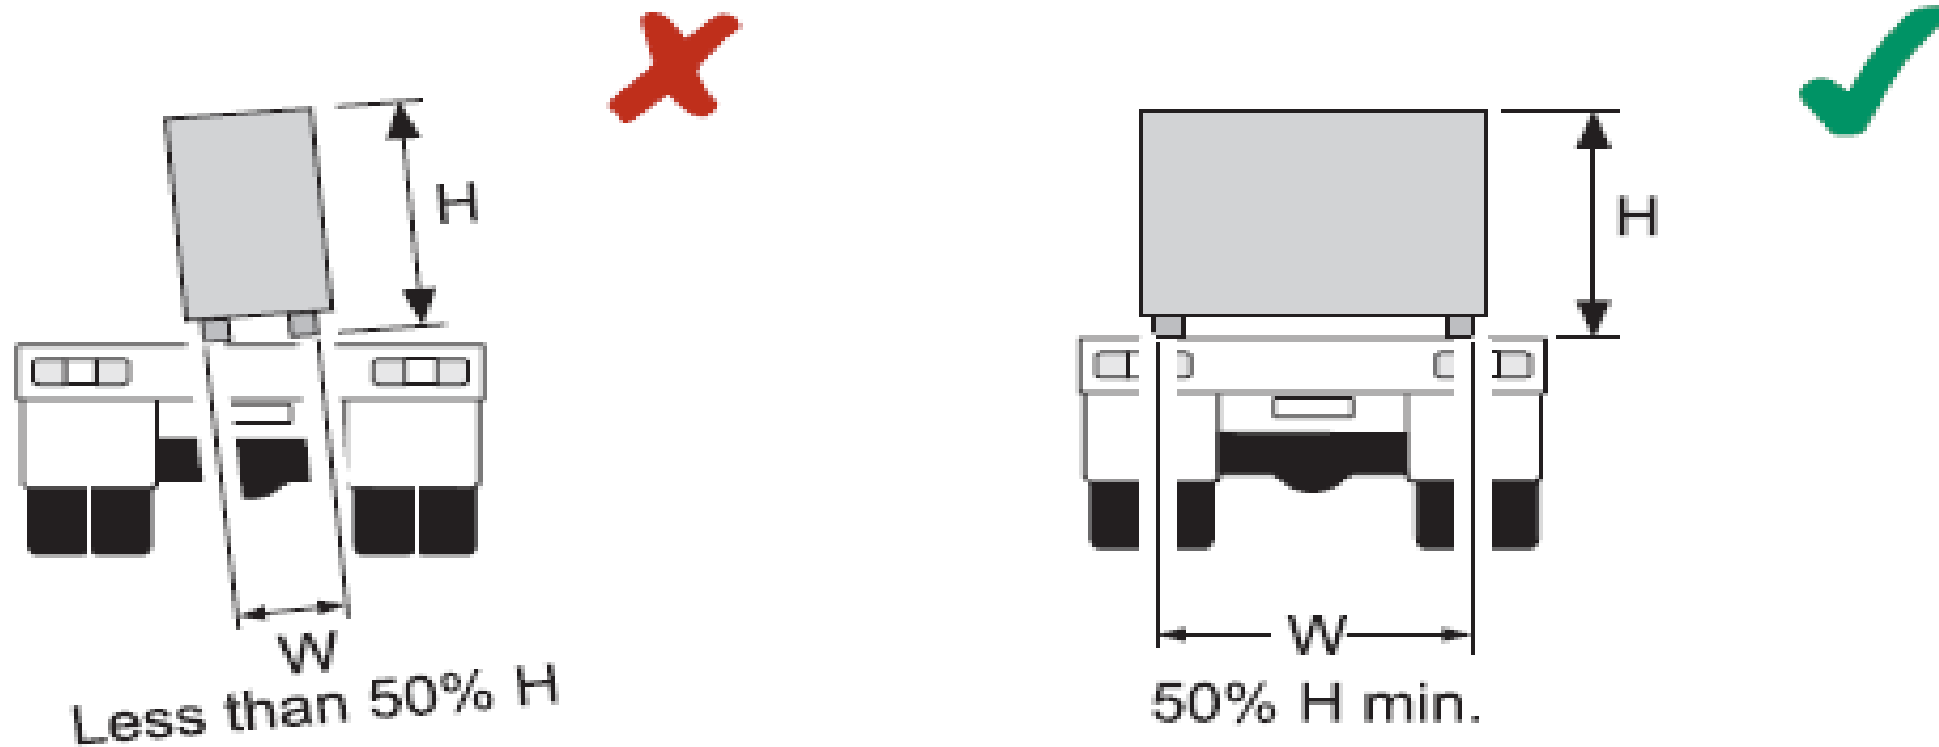

Fig. B.17
Tall loads are unstable sideways if the width (W) measured across the vehicle, is less than 50% of the height (H) (see Figure B.17).